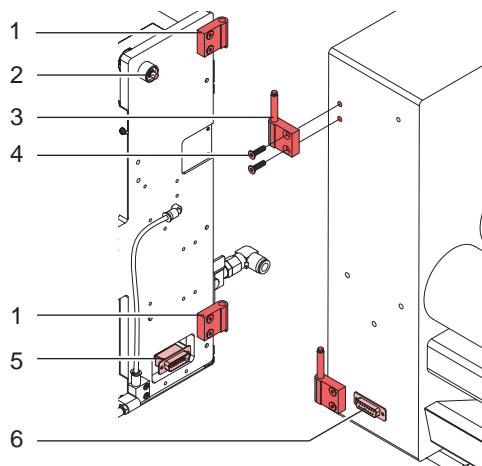

Figure 3 Mounting and connecting
1. Axle part of hinges (3) mount like Figure 3 .
2. Applicator hang with the female part (1) of hinges at the printer mounted hinges parts (3).
3. Connect SUB-D 15 male connector (5) to the female connector (6) of the printer.
4. Swing the applicator to the printer and tighten the thumbscrew (2).